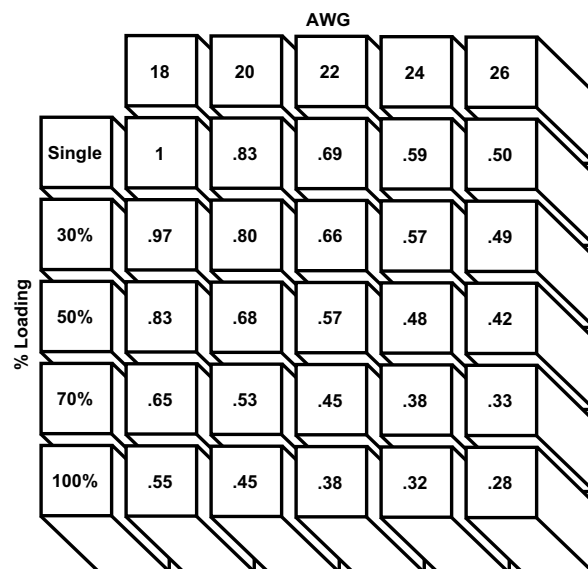

Figure 2
- Next are rating factors; a table of multipliers to account for connector loading and for smaller wire sizes (See figure 2). The designer first determines the base current for the ambient conditions of the application; then multiplies this base current by the rating factors to find the current level for the application's loading factor and wire size.
- Figure 2, the rating factor for 50% loading and 20 AWG [0.6mm²] wire is 0.68.